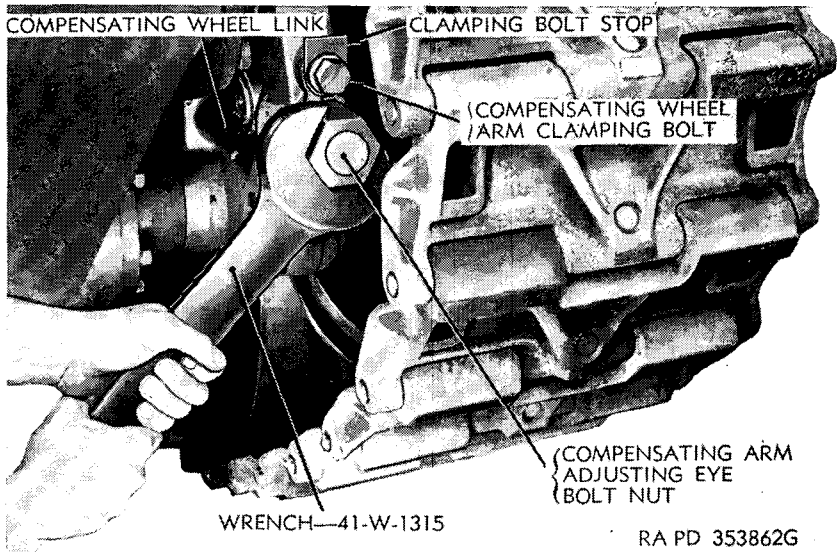
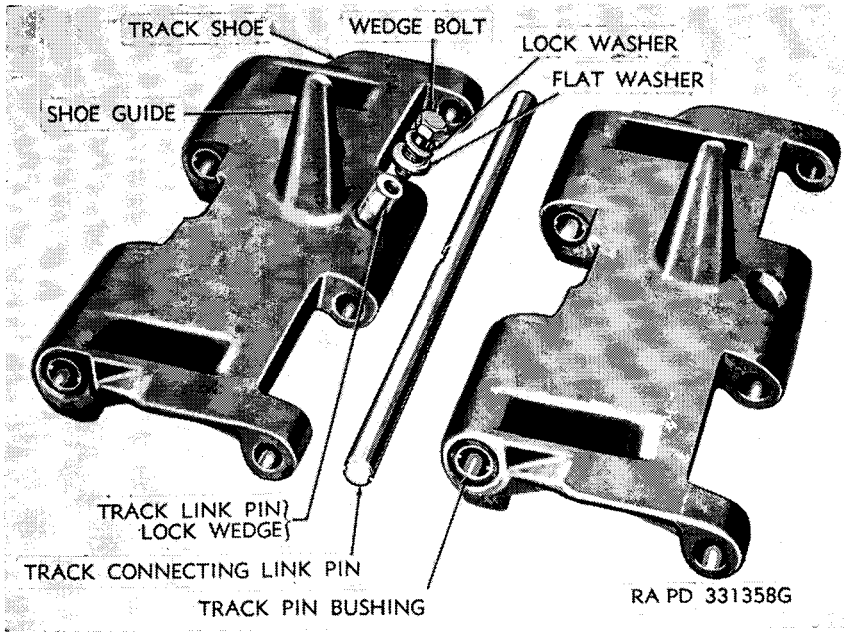

Figure 132. Adjusting track tension.
Figure 133. Steel track shoes—exploded view.
- (1) Two individually driven types of tracks (steel, T72 and T72E1 or rubber, T85E1) provide the necessary traction to propel the vehicle (fig. 130). Each complete track is composed of separate track shoes of cast steel or rubber chevrons, with center guides. The steel track shoes are connected together with straight pins carried in rubber bushings (fig. 133). The rubber track shoes are held together by end connectors which lock with wedges on the shoe studs. The steel shoes are of interlocking design to eliminate vibration and wear which occur when track wheels pass over openings between track shoes. Two types of steel track shoes are used, the solid and drilled types. Grousers cannot be used with the solid type; however, the drilled type can be identified by three cast holes which are used when installing 28½-inch extended grousers. Two final drive sprockets, one on each side, pull the tracks forward over the supporting rollers and lay them down in the path of the advancing track wheels.
- (2) If the track adjustment is incorrect, loosen clamping bolt at rear of compensating wheel arm (fig. 132) and slide clamping bolt stop up from adjusting nut. Tighten or loosen track adjusting nut to obtain correct track tension using wrench—41-W-1315. Tighten clamping bolt after positioning stop on flat of adjusting nut.
- (1) *Steel track.* Install track connecting fixtures—41-F-2997-86 on track, midway between compensating wheel and rear track wheel (fig. 133) and take up track tension. Remove track shoe pin wedge bolt, lock washer, and plain washer (fig. 132). Using a brass drift, drive wedge out of block. Tighten track connecting fixtures to relieve track tension and drive out track link pin, using knock-out pin—41-P-560-300 (fig. 133).
- (1) *Steel track.* Lay track out on ground and tow vehicle on track so that rear end of track projects approximately 10 inches beyond rear track wheel. Pull front end of track up over drive sprocket and start engines. Put transfer unit in "REVERSE" and transmission in "DRIVE" and guide track back over support rollers and compensating wheel as rotation of drive sprocket moves upper half of track back. Mount track connecting fixtures—41-F-2997-86. Bring track ends together by tightening fixtures and drive in track link pin (fig. 135). Be sure that grooves in pin enter guides in pin bushing (fig. 133) and that pin enters bushings without damaging bushings ends. Install track link pin lock wedge in hole in shoe, with beveled end in, tap wedge lightly to its seat, and install plain washer, lock washer, and wedge bolt. Tighten bolt to 120 foot-pounds torque. Adjust track tension (par. 171).